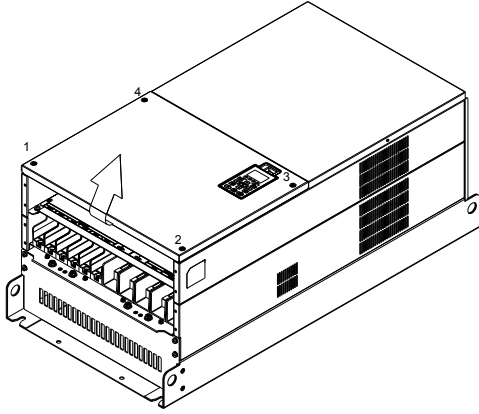

Figure 1
- (1) Loosen the screw (figure 1) and remove the cover.